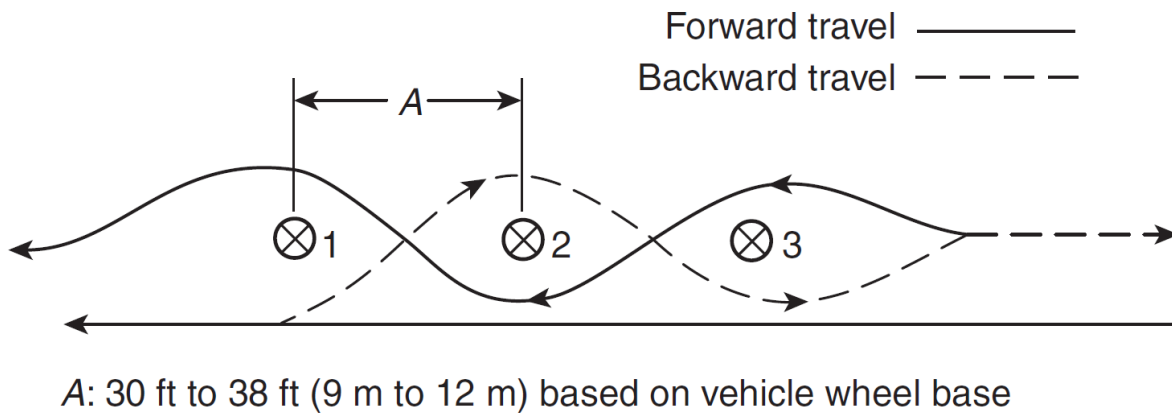

FIGURE A.4.3.3 Serpentine Exercise.
A.4.3.3: The serpentine exercise measures a driver's ability to steer the apparatus in close limits without stopping. The exercise should be conducted with the apparatus moving first backward, then forward. The course or path of travel for this exercise can be established by placing a minimum of three markers, each spaced between 30 ft (9 m) and 38 ft (12 m) apart, in a line. The spacing of the markers should be based on the wheel base of the vehicle used. Adequate space must be provided on each side of the markers for the apparatus to move freely. The driver should drive the apparatus along the left side of the markers in a straight line and stop just beyond the last marker. The driver then should begin the exercise by backing the apparatus between the markers by passing to the left of marker No. 1, to the right of marker No. 2, and to the left of marker No. 3. At this point, the driver should stop the vehicle and then drive it forward between the markers by passing to the right of marker No. 3, to the left of marker No. 2, and to the right of marker No. 1. (See Figure A.4.3.3.)